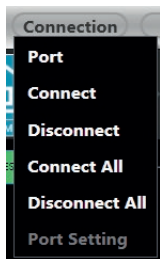

Figure 2.5
6.2.3 Connection (As shown in figure 2.5)